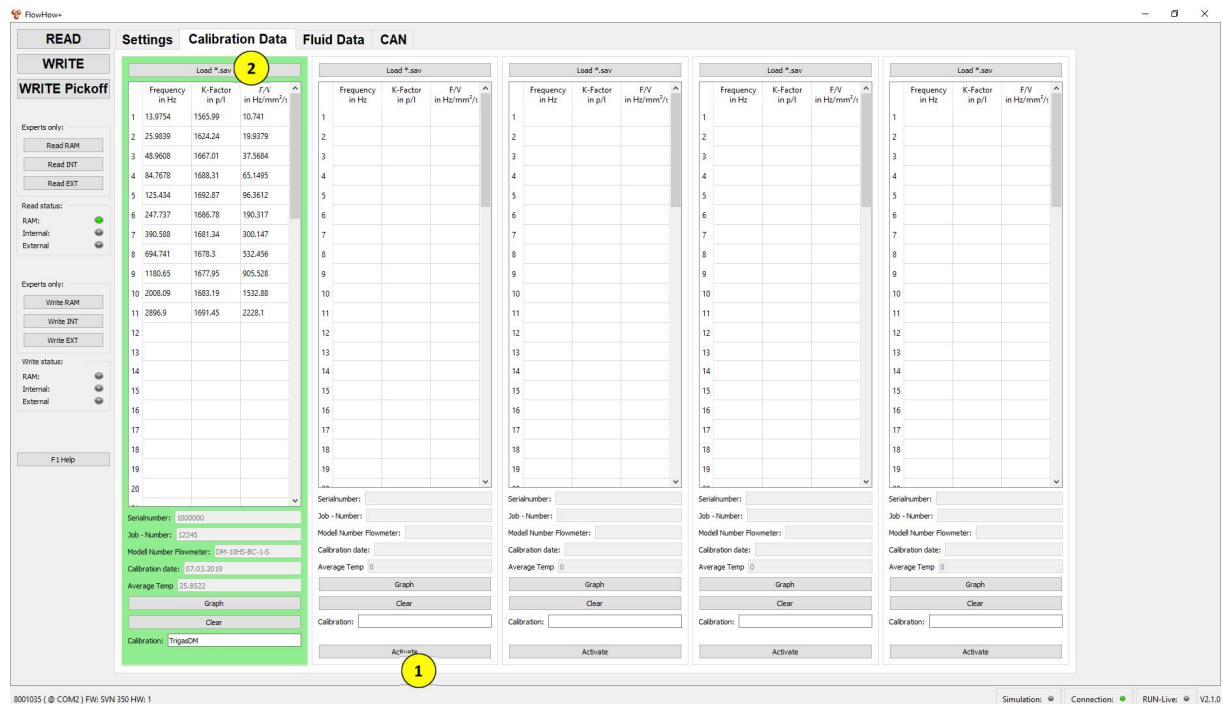

Fig. 5 Select data set and load calibration data
- Navigation to the Calibration Data tab. [Fig. 5 ]
- Select desired record via "Activate" (1). [Fig. 5 ]
- To load the calibration curve, press "Load \*.sav" (2) button and select desired file. [Fig. 5 ]